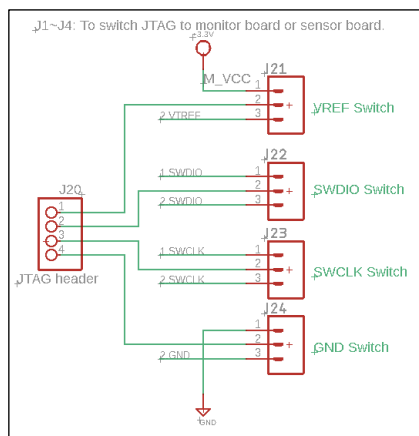

Figure 4-10 JLINK Debugging Target Selection Circuit
- In Figure 4-10, when Pin1/2 of J21~J24 are short-circuited, the debugging target is RA4M1 Monitor EVB.
- In Figure 4-10, when Pin1/2 of J21~J24 are open, the debugging target is RA2L1 CAN Sensor EVB.